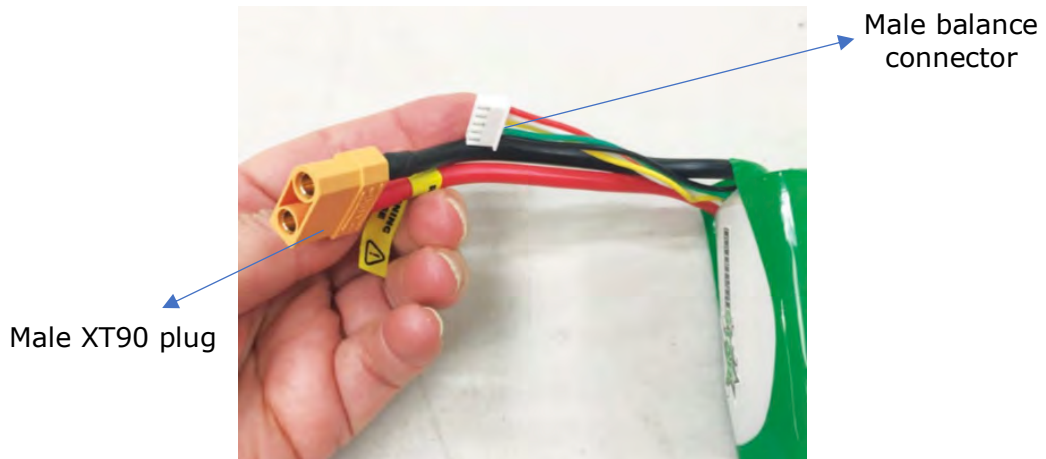

Figure 3: battery's connection plugs
- c. Each battery comes with a male XT90 plug and a male balance connector (Figure 3).